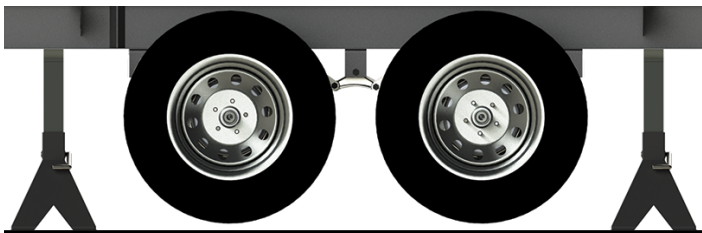

Fig.2
4. Using the properly-rated floor jacks, lift the trailer according to the manufacturer's recommendation until the wheels are no longer in contact with the ground (Fig.2).